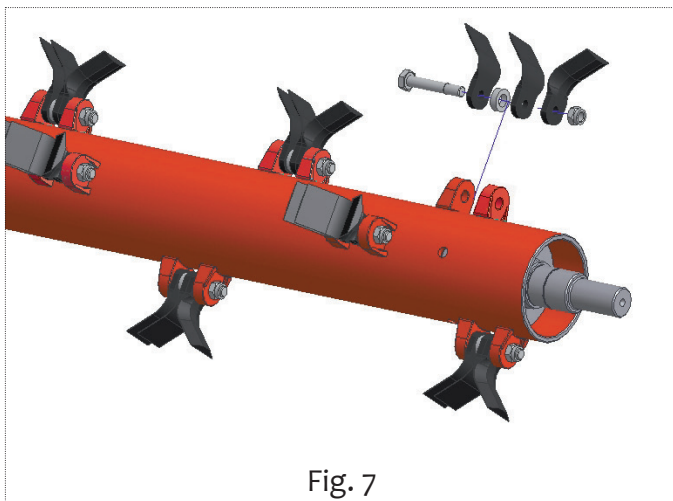

Fig. 7
- Remove the nut (Fig. 7) of the bolt that fastens the worn hammer. During the assembly phase, make sure that the new hammer is fixed in the same position;
- Remove the nut (Fig. 7) of the bolt that fastens the worn tines. Take care to check the positions of the various components, particularly the spacers (Fig. 7). Make sure that the new tines and components are assembled in the same positions.